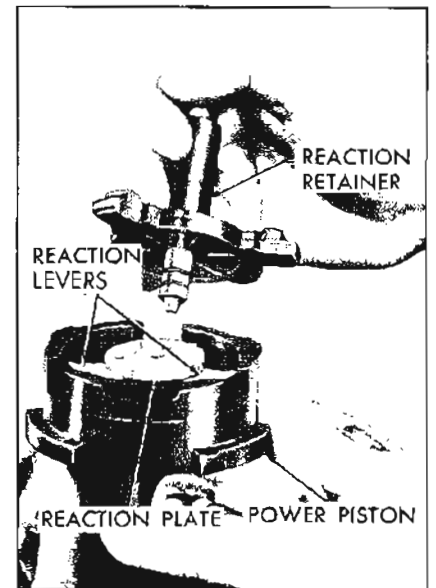

Figure 9-22—Removing Reaction Retainer
(3) reaction levers and air valve spring. Also remove the small reaction bumper and the air valve spring retainer from the air valve. See Figure 9-22.